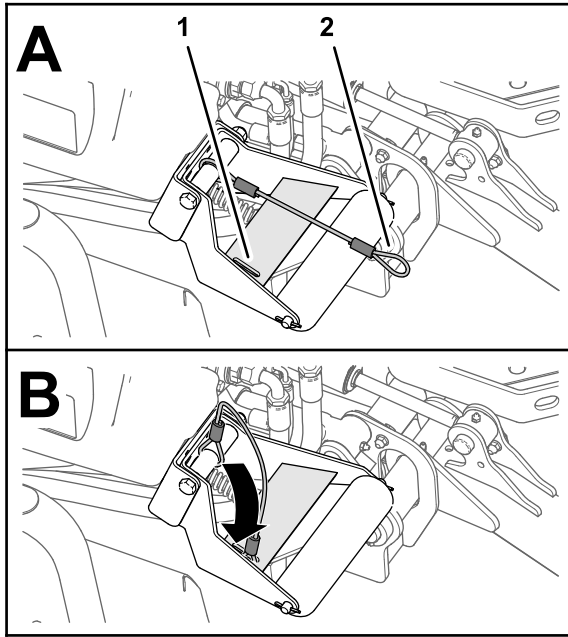

Figure 67
- With the cutting units lowered, slip the loop of the lanyard into the slot in the reinforcement plate of the roller support (Figure 67).